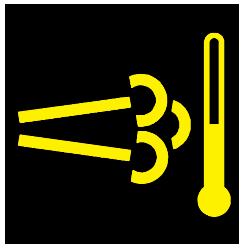

Figure 80. High Exhaust Temperature Indicator
The **High Exhaust Temperature** indicator (Figure 80) may appear on the digital controller display during the automatic regeneration process. Allow the engine to run until the process is completed.
3. After forced regeneration begins, the message “**MAN REGEN ACTIVE**” and the **High Exhaust Temperature** indicator (Figure 80) will be displayed on the controller.